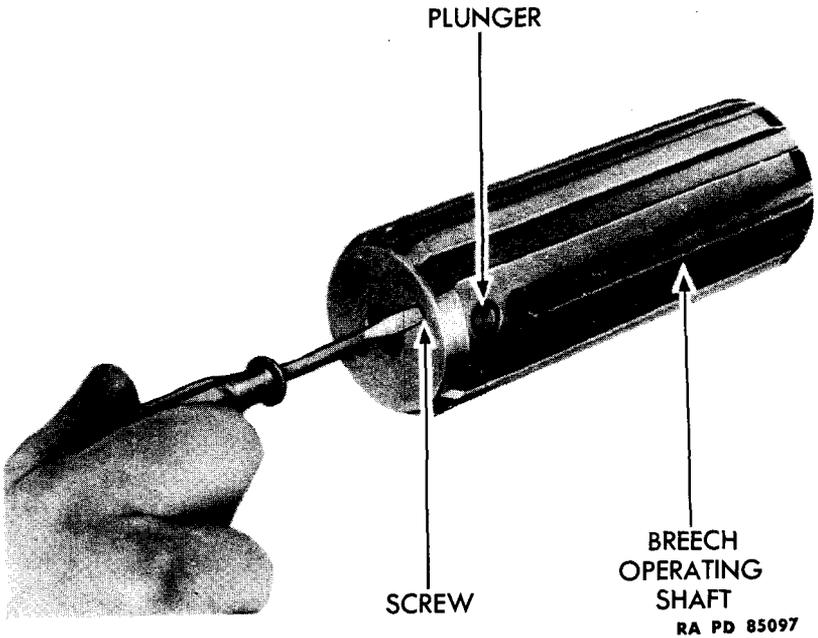

Figure 35 – Removal of Breech Operating Shaft Plunger Screw
h. Remove Plunger and Screw from Breech Operating Shaft (fig. 35). Remove screw that secures operating shaft plunger in operating shaft and push plunger from shaft.